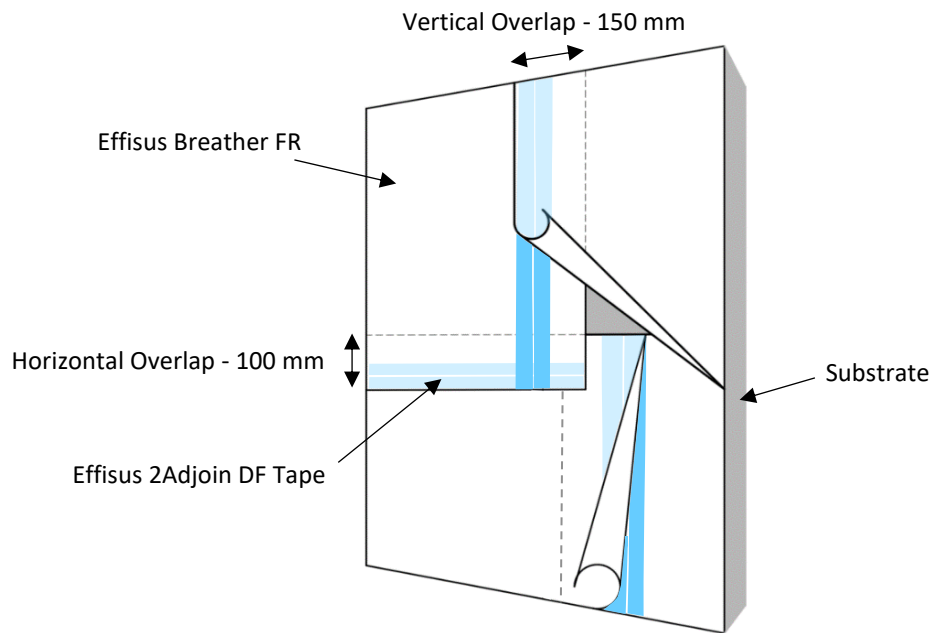

Figure 3 - Effisus Breather FR UV Membrane – Overlapping Joints.
- Vertical joints should overlap by 150mm minimum and be staggered or offset wherever possible (see Figure 3).